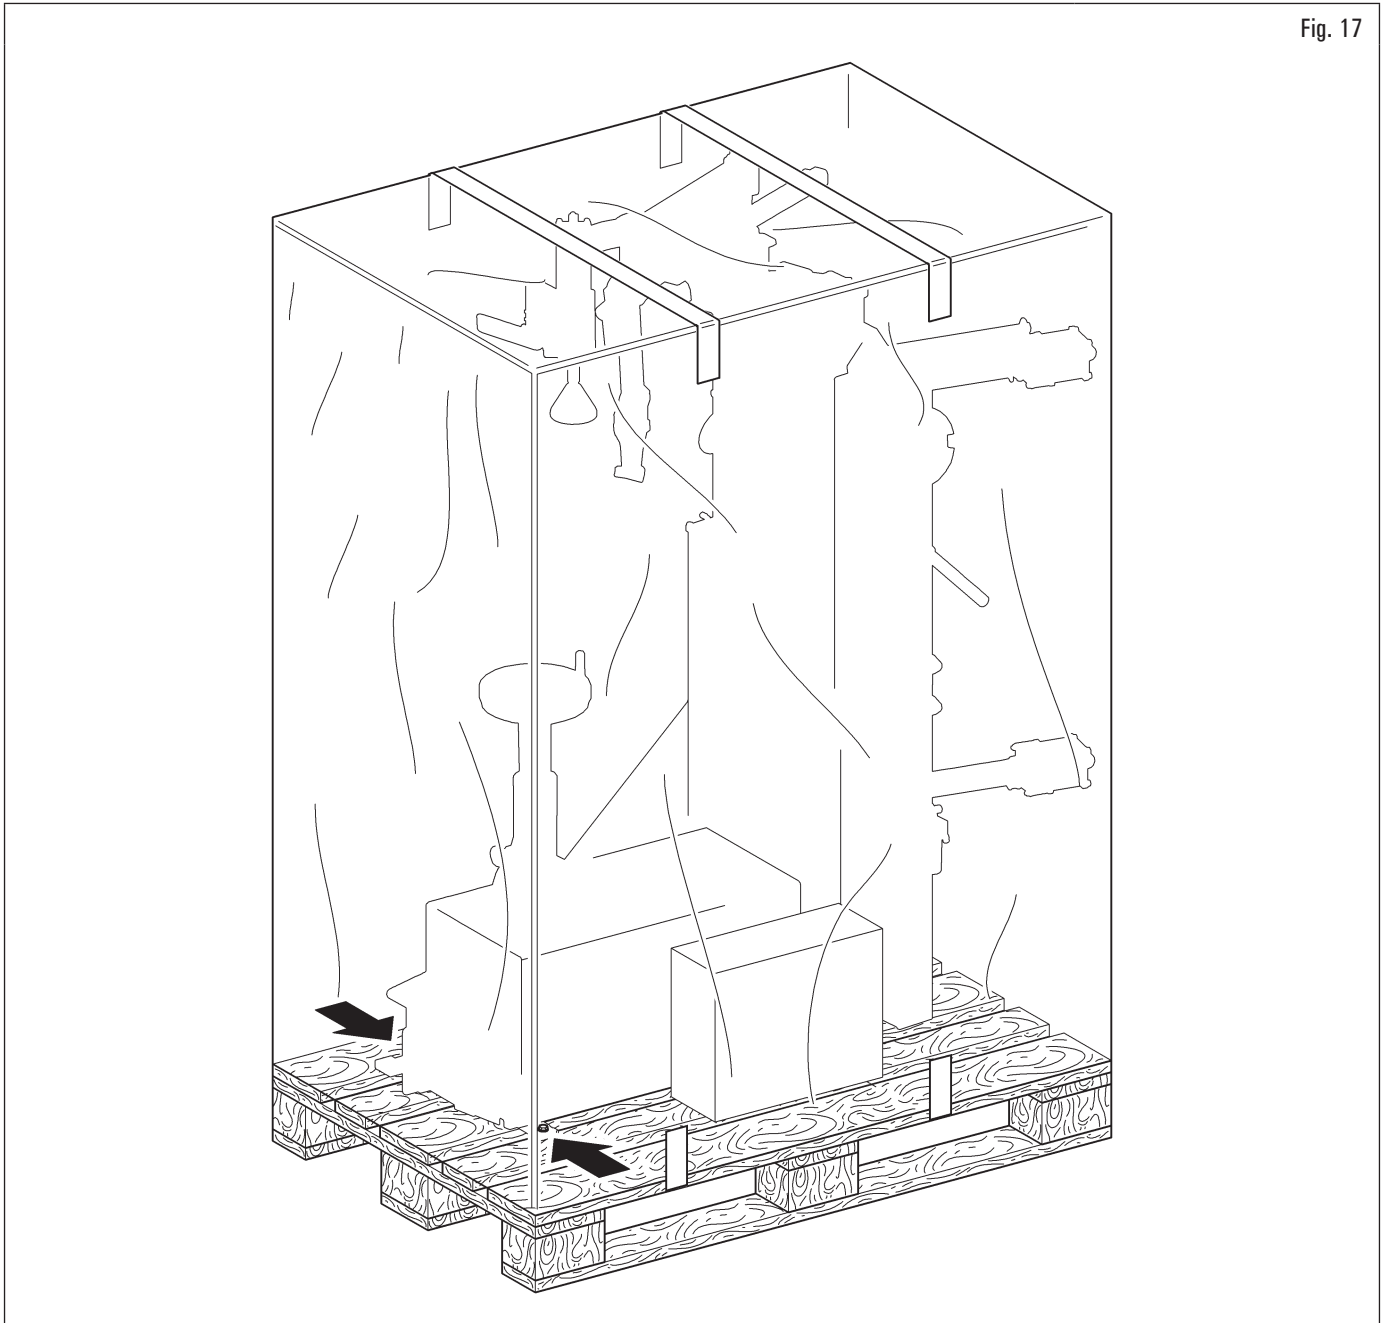

Fig. 17
- The equipment is usually shipped partially assembled as shown in Fig. 17.
- lift carefully, using adequate load support means, in perfect working order, using the appropriate signs placed on the packaging Fig. 17.